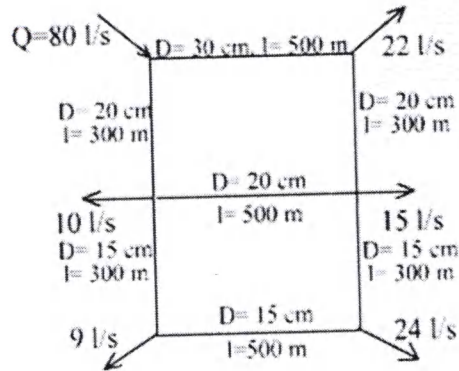

Fig. 3 : Schematic network diagram for Problem 2.
9. Calculate the head losses and primary corrected flows in the various pipes of a distribution network as shown in Fig. 3. The diameters and the lengths of the pipes used are given against each pipe. Compute corrected flows after one corrections (for one loop only) as given in the Table 2.